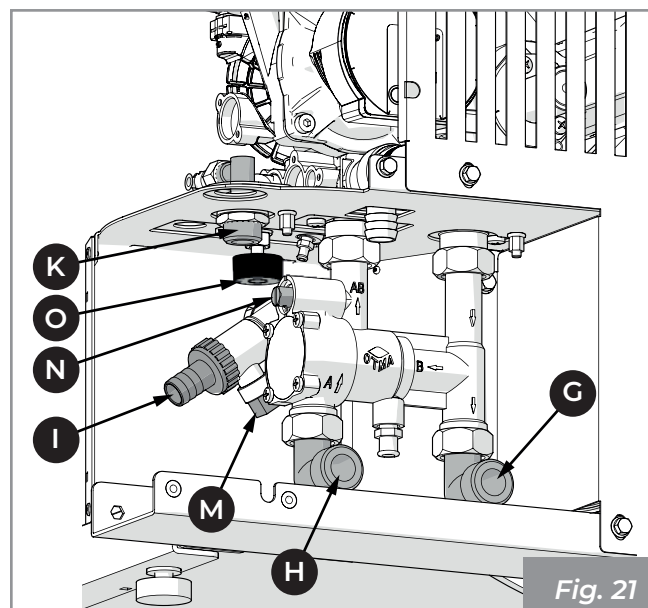
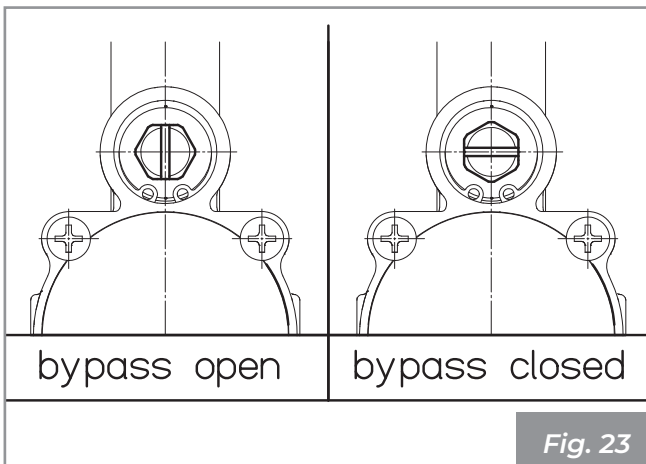

Fig. 21
Fig. 23
6.4 Boiler system fluid filling/top-up mode (Fig. 21 ÷ Fig. 23)
Close the bypass tap present in the anti condensation valve (Fig. 23).